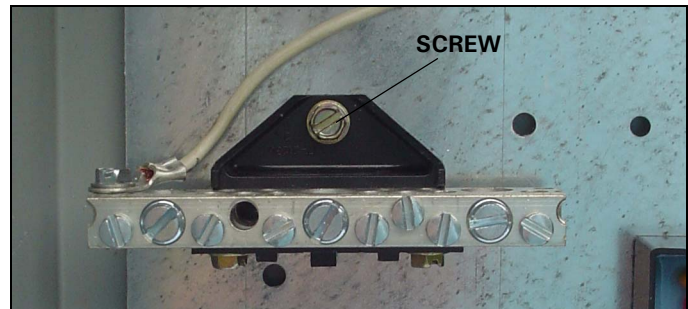

Figure 27. Replacing the 100 A Neutral Bar.
Step 4: Remove the screw in the black base using a blade screwdriver or 0.25 in. socket or nut driver. Remove the neutral bar (see Figure 27).